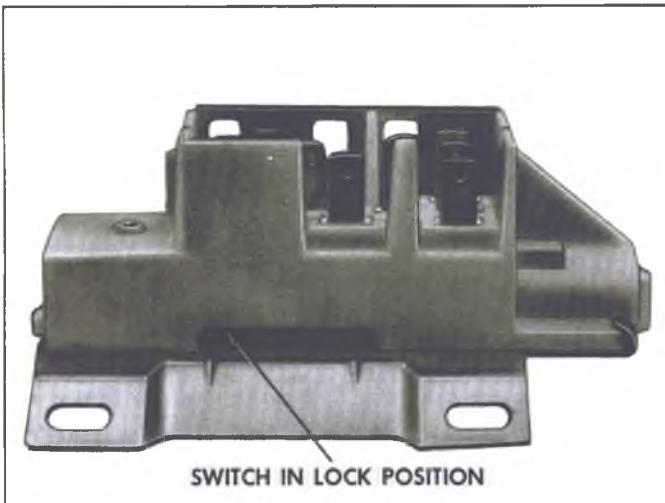

Fig. 59—Ignition Switch Assembly
- Before replacing the switch, be sure that the lock is in the "Lock" position. Make certain that the switch is in "Lock" position (fig. 59); if it is not, a screwdriver (placed in the locking rod slot) can be used to move the switch to "Lock".